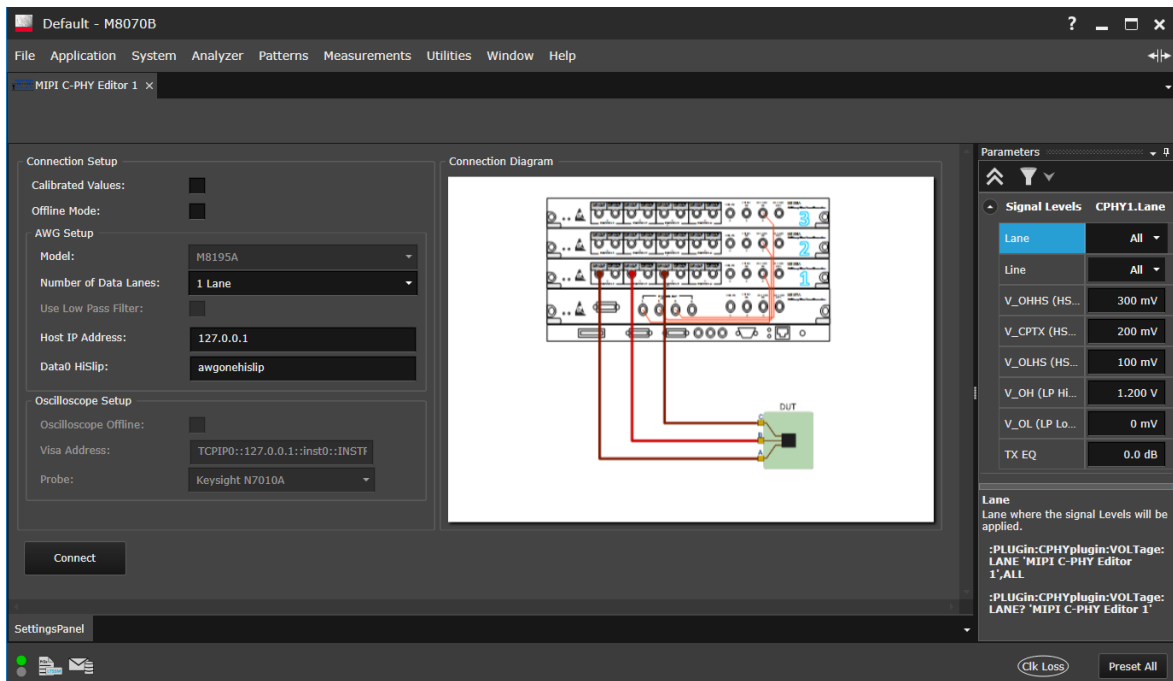

Figure 18 MIPI C-PHY Editor Plug-in User Interface
- 4 The **MIPI C-PHY Editor** user interface appears as shown in **Figure 18**.